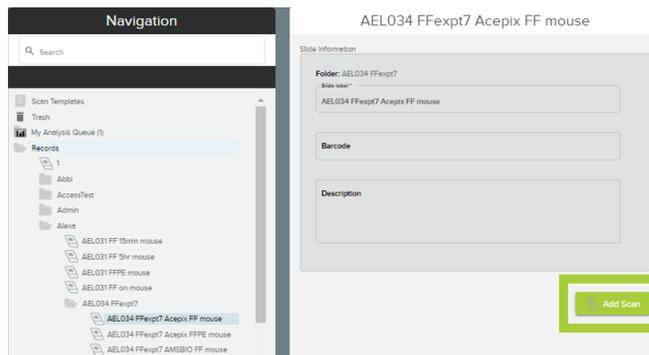

Figure 21: Add scan button
1. Select a slide from the Navigation pane or create a new slide record (see Create a New Slide Record on page 68), then click **Add Scan** (Figure 21).